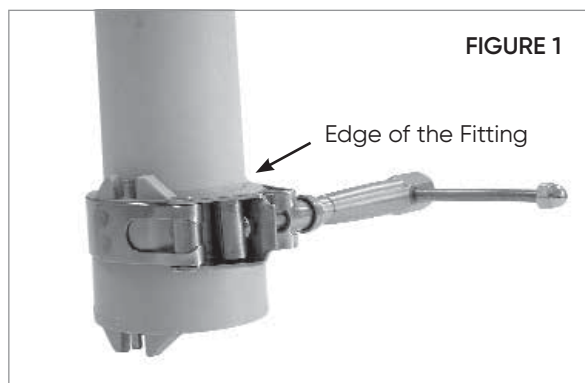

FIGURE 1
6. Loosely fit IPEX-supplied clamp(s) only over the hub(s) of the socket(s) to be fused (Figure 1).
Note: Each joint being fused must have an IPEX T-Bar clamp flush with the other edge of the socket as shown previously in Figure 1.